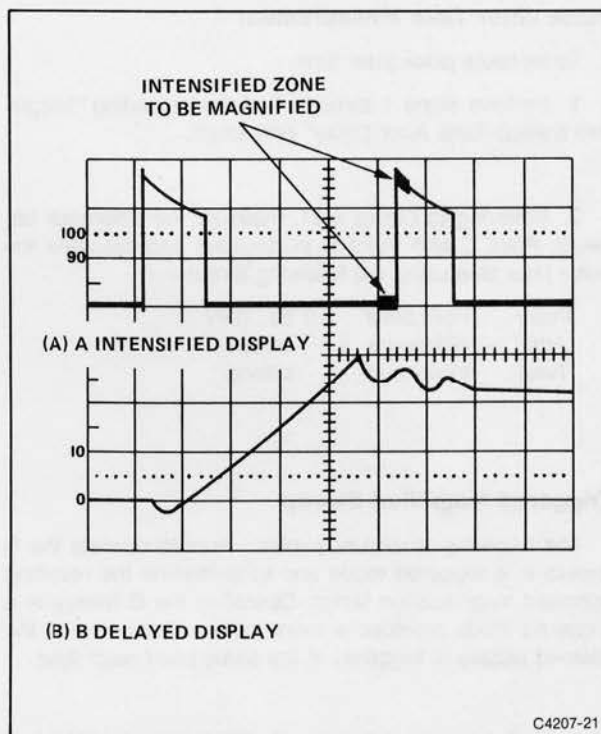

Figure 4-10. Delayed-sweep magnification.
6. Adjust the B DELAY TIME POSITION control to position the start of the intensified zone to the portion of the display to be magnified (see Figure 4-10).
7. Set the B SEC/DIV switch to a setting which intensifies the full portion of the A trace to be magnified. The intensified zone will be displayed as the B trace (see Figure 4-10). The B HORIZONTAL MODE may also be used to magnify the intensified portion of the A Sweep.